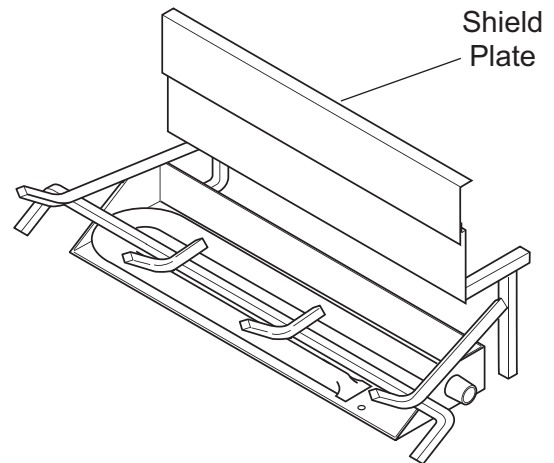

Figure 68 - Sliding Shield Plate Down Back of Burner Pan
1. Slide shield plate down back of burner pan. *See Figure 68.*